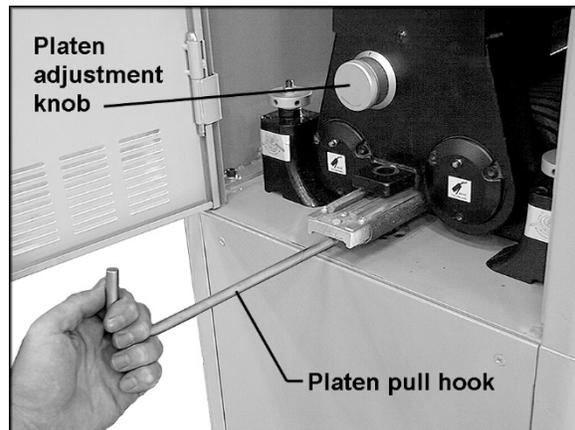

Figure 10
The height of the platen is set at the factory but can be re-adjusted by rotating the platen adjustment knob (Figure 10). Each mark on the scale indicates a raising or lowering measurement of 0.005mm. One complete rotation of the scale moves the platen 0.2mm or approximately 8/1000 of an inch.
2. Place the platen pull hook into the hole on the end of the platen and pull out the lower portion of the platen assembly, as shown in Figure 10. NOTE: The platen is tightly fitted and will require a firm pull with the pull hook.